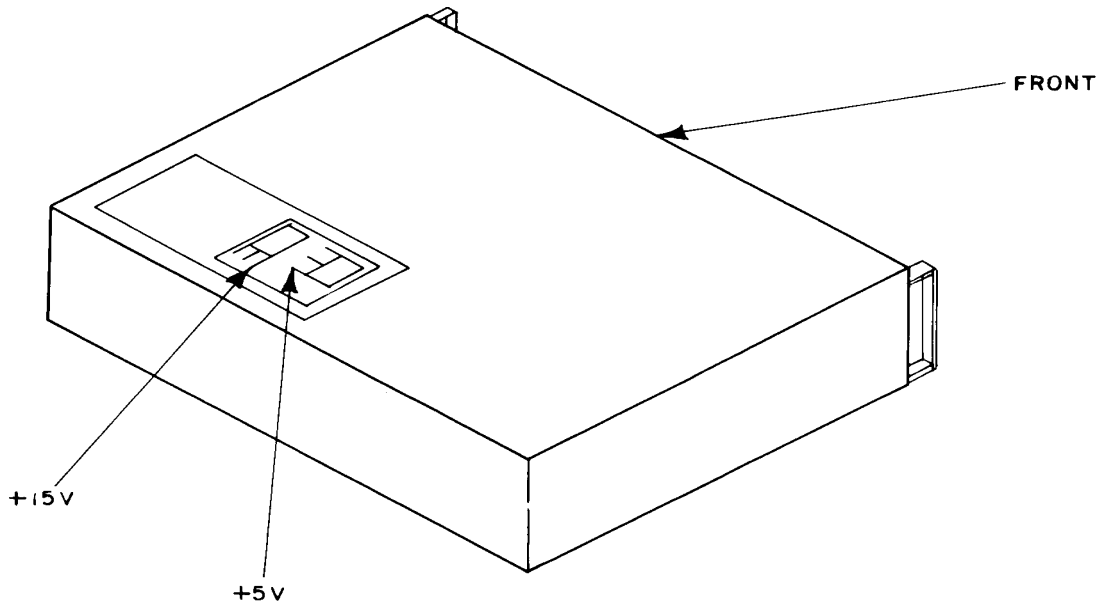

Figure 6. Test instrument - bottom interior view.
(1) Connect differential voltmeter between **+5 V test point** (fig. 6) and **chassis ground**. Differential voltmeter indication will be between 4.75 and 5.25 V dc.
(2) Connect differential voltmeter between **+15 V test point** (fig. 6) and **chassis ground**. Differential voltmeter indication will be between 14.5 and 15.75 V dc.